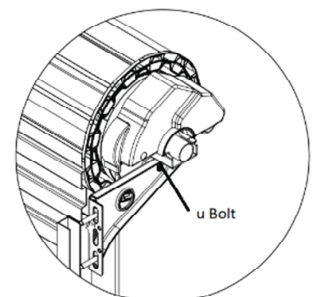

Figure 3
- Fasten the U-Bolt over the motor bracket (See Fig 3)